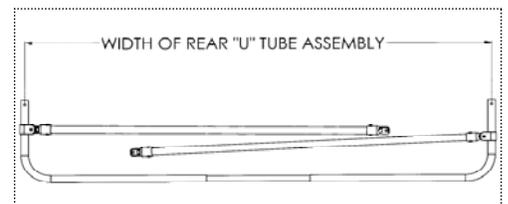

Fig 7
1) For all towers with "Y" dimensions of 66" or less, the rear "U" tube assembly is pre-adjusted to the correct width. Check the width of this assembly to confirm that it matches the dimension listed in Table B. (See Fig 7)